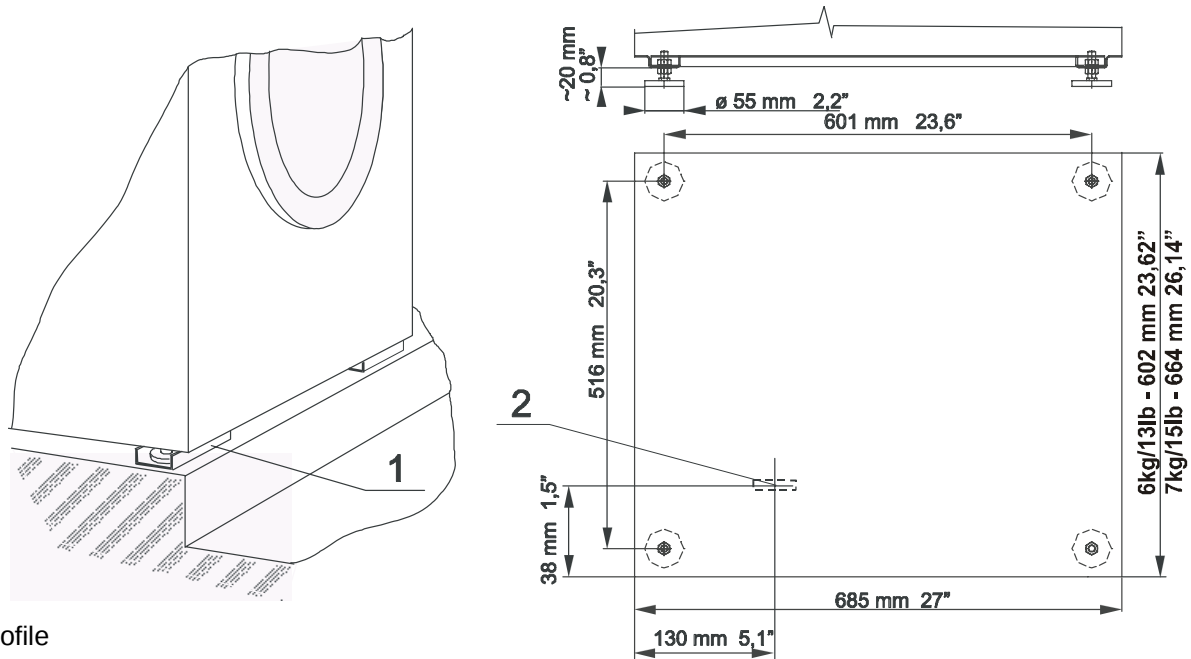

Fig.4.3. Bottom machine frame
IF THE MACHINE IS LOCATED ON A HIGHER BASE FOR BETTER OPERATION, THE FRONT LEGS OF THE MACHINE SHOULD BE LOCKED FOR SAFETY REASONS (SEE FIG. 4.3.).
Do not forget to leave an access space to the lever of emergency door opening (fig.4.3.,pos.2), which is located in the bottom left front machine part.